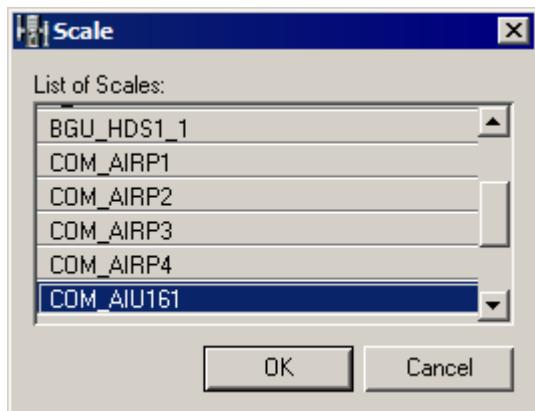

Figure 36: Scale dialog
2. Click the button on the right side of this field to open the **Scale** dialog shown in Figure 36.